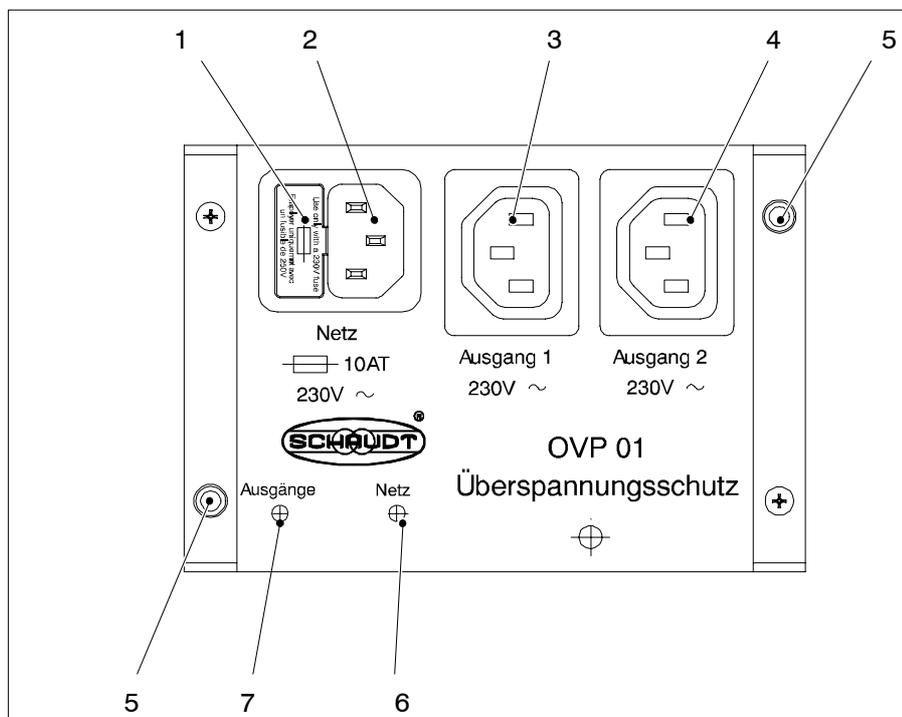

Fig. 1 Overvoltage protection OVP 01 A
- LED “mains” (fig. 1 pos. 6)
- LED “Outputs” (fig. 1 pos. 7)